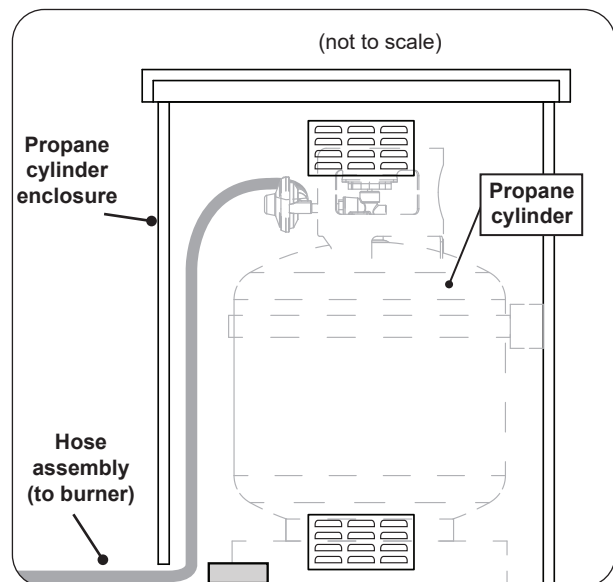

Fig. 38-3 L.P. Cylinder placement
3. The propane cylinder (not included) is to be located inside the separate propane cylinder enclosure (see Fig. 38-3).